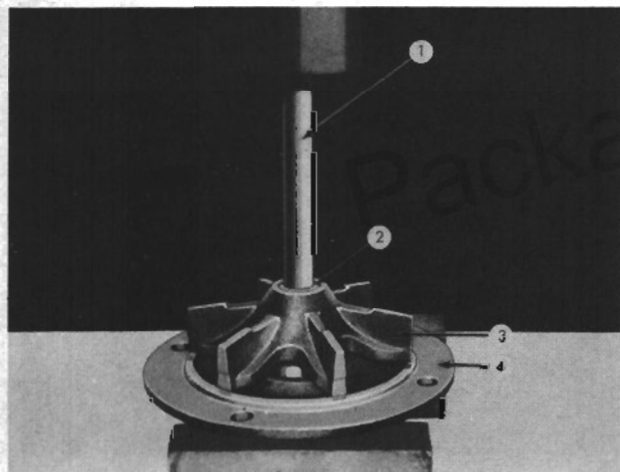

FIG. 7
Remove the bearing lock ring (2). Place the assembly in the arbor press and press the hub, shaft, and bearing assembly (2, Fig. 7) out of the impeller (3) and cover (4). Then press the shaft and bearing assembly out of the hub.